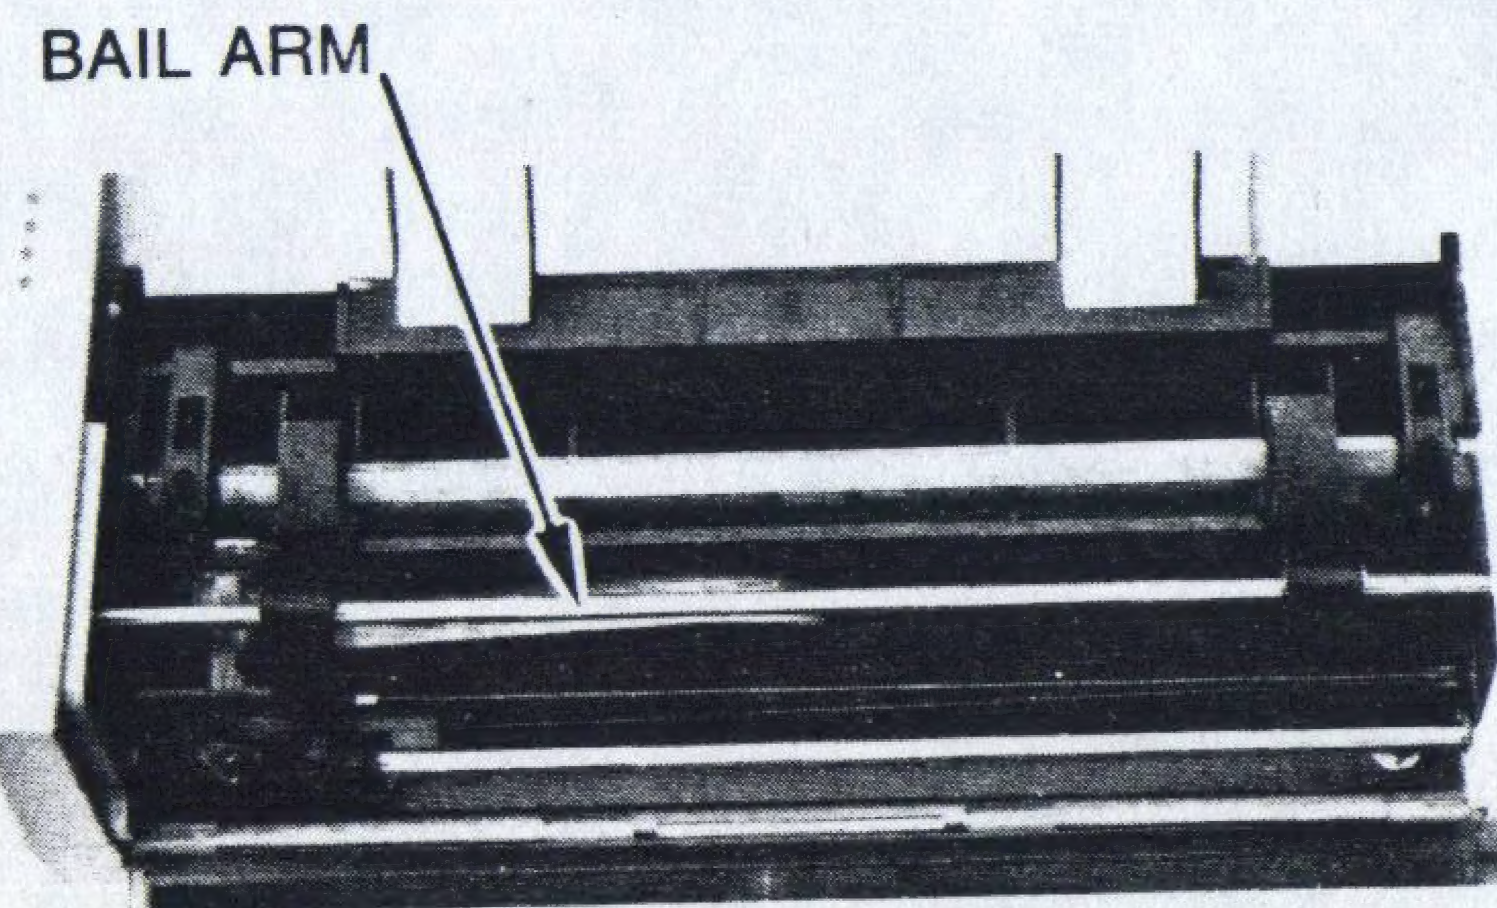

Figure 1-6 Open Bail Arm
- Open the bail arm as shown in Figure 1-6.